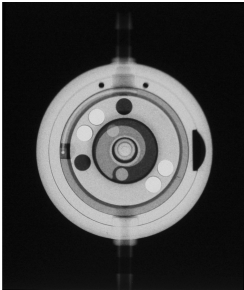

Fig. 6: X-ray image (proGAV 2.0 adjustable differential pressure unit, set to 14 cmH₂O)
M.blue plus Compass, but it can also be checked with the aid of an X-ray image (Fig. 6).
To prevent reading the pressure level in reverse, the valve is fitted with a valve marking on one side, which appears black in the X-ray image – in a top view onto the implanted valve as in Fig. 6, the recess is visible on the right-hand side.